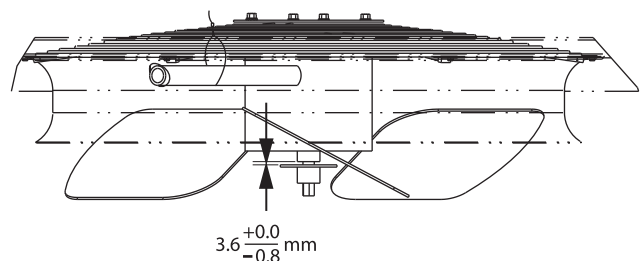

Fig. 26 — Condenser Fan Adjustment
4. Adjust fan height as shown in Fig. 26.